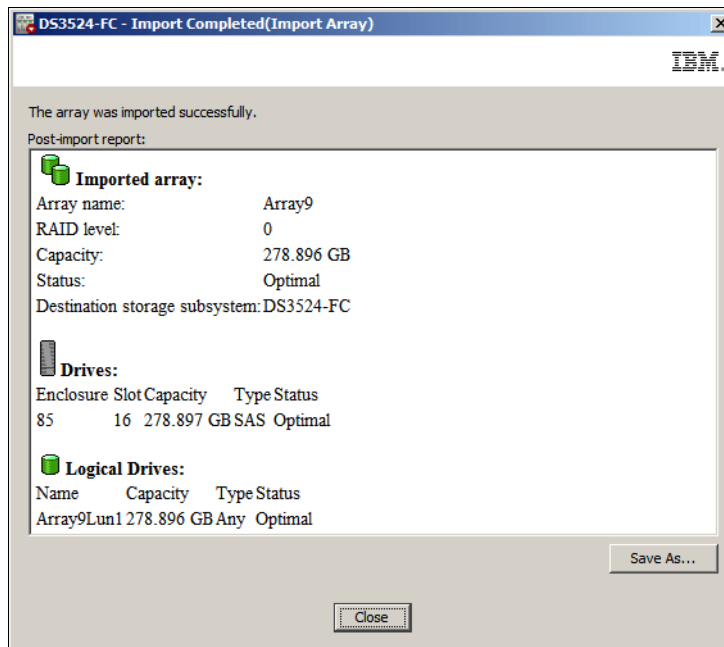

Figure 14-113 Import Completed
- The Import Completed window shown in Figure 14-113 will be displayed when the array has been successfully imported. You can save the array migration to a text file by clicking the **Save As** button.